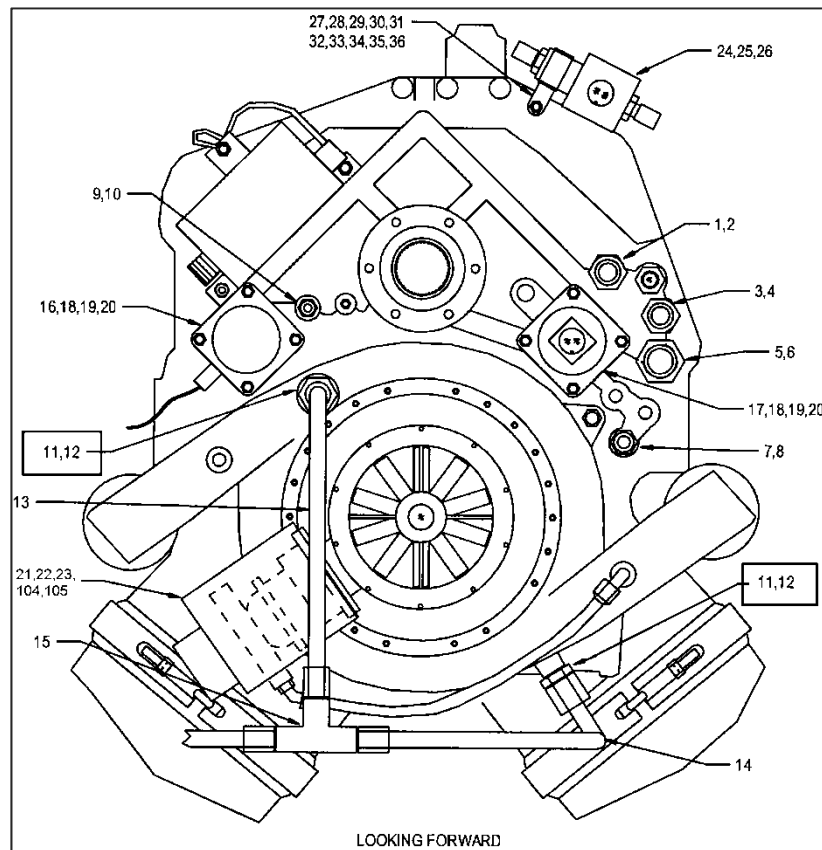

Figure 1. Engine Buildup Assembly (TH-28/480 Series IPC Figure 6-1)
6.1.2 Locate the two bleed air fittings (Item 11) (Figure 1).